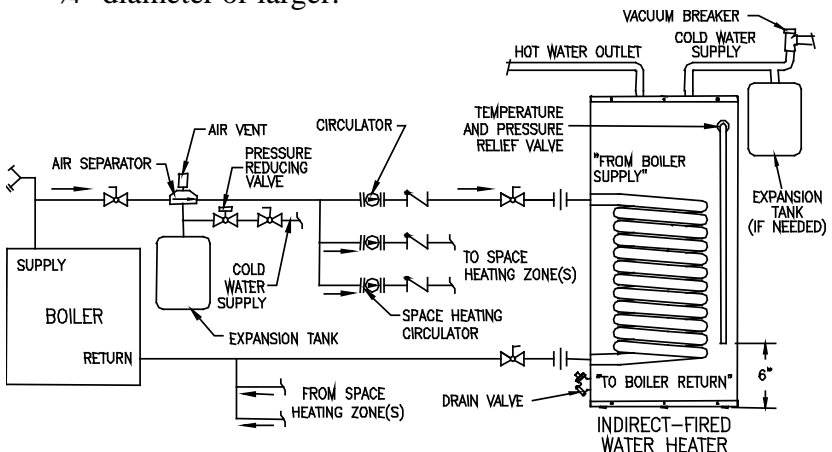

Figure 3 - Water Boiler Piping with Circulators
- For a space heating system that utilizes CIRCULATORS, refer to Figure 3. The indirect-fired heater connection labeled “FROM BOILER SUPPLY” should be piped to the boiler supply piping. Mount the circulator making sure the flow arrow points toward the water heater. The use of shut-off valves and unions are recommended for future service convenience. The use of an air separator and vent is recommended to eliminate air in the system. Pipe and fittings between the boiler and indirect-fired heater must be $\frac{3}{4}$ ” diameter or larger.